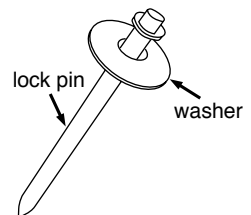

Figure 31
6. Slide the washer onto the lock pin and place inside the upper cabinet for future use as directed on page 44. See Figure 31.